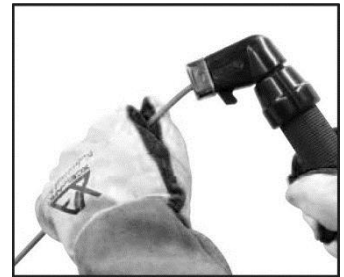

Fig. 6
4. Place the electrode into the electrode holder and clamp tight (Fig. 6).